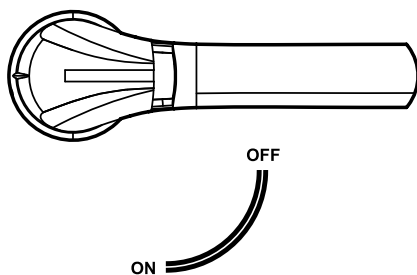

Figure3-31 Place the switch to OFF
- Step 1 Open the front door of distribution cabinet, place the input switch (POWER), output switch (OUTPUT), maintenance switch (MAINTENANCE), bypass switch (BYPASS) to OFF, as shown in Figure3-31.